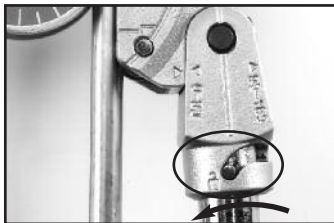

Figure 12 – UNLOCK
1. When the “0” Line on the Carriage reaches the 90° mark on the Form, turn the carriage handle so that the pin moves the “unlock” position (Figure 12).